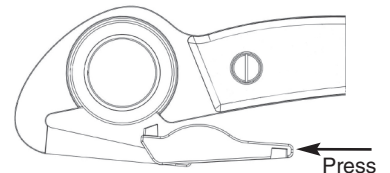

Fig. 3
2. Place the washer (2) on the blade.
3. Install the washer and the blade by using the knurled screw (1).
4. Slip the support (4) over the projecting arm (the hook). (See fig. 3)